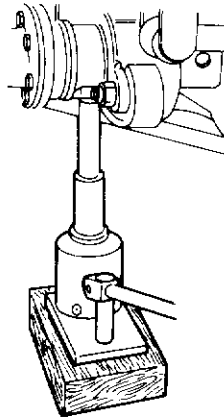

Figure 2-3 Jack position — front wheels
- (1) Front wheel. Position the jack so that when raised, it will engage with the front axle casing immediately below the coil spring, where it will locate between the flange at the end of the axle casing and the large bracket to which the front suspension members are mounted (see Fig. 2-3).